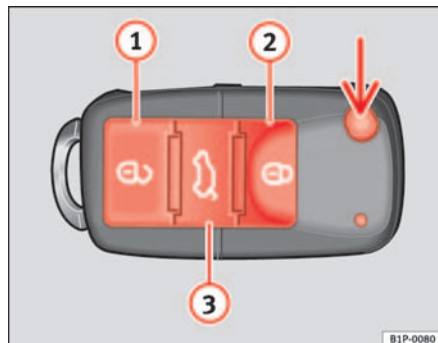

Fig. 64 Assignment of buttons on the remote control key
Using the button  fig. 64 (arrow) on the control, the key shaft is released.
Also, the battery indicator on the key  fig. 64, will flash.
- Lock the vehicle using the driver side door lock with the remote control key ⇒ page 100, fig. 64.